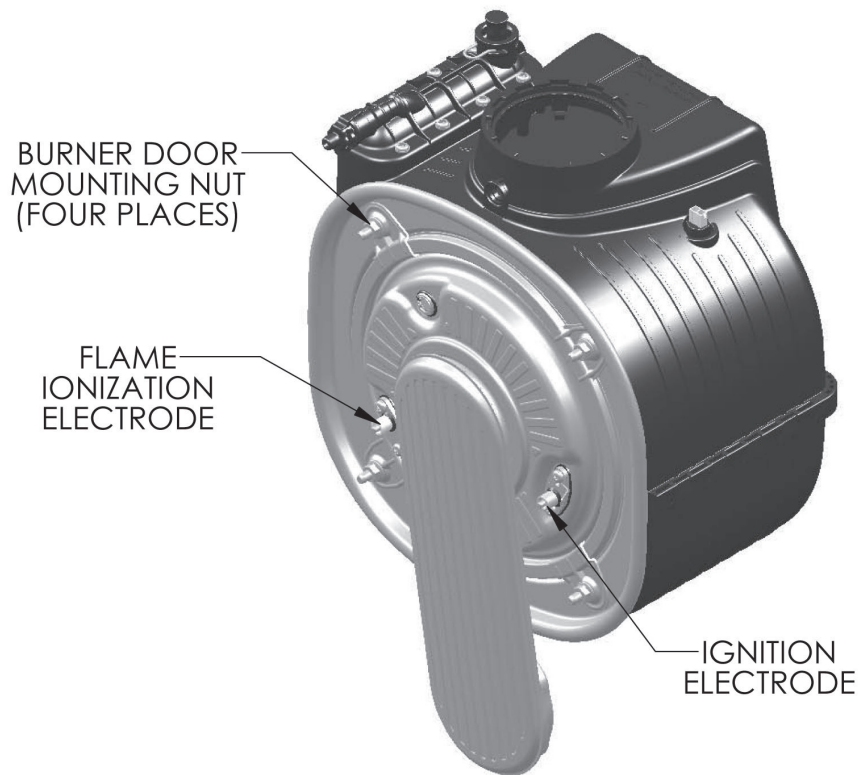

Figure 13.2: Flame Ionization Electrode and Ignition Electrode Location
- i. **Unplug the ignition, ground, and flame rod wires** from the ignition electrode and the flame rod (Figure 13.2).
- j. **Use a 10 mm wrench to remove the four nuts** securing the fire door to the heat exchanger (Figure 13.2). Carefully remove the door/blower/gas valve assembly from the heat exchanger, being careful not to damage the refractory insulation on the inside of the door (see Refractory Warning on page 132) or the electrodes.